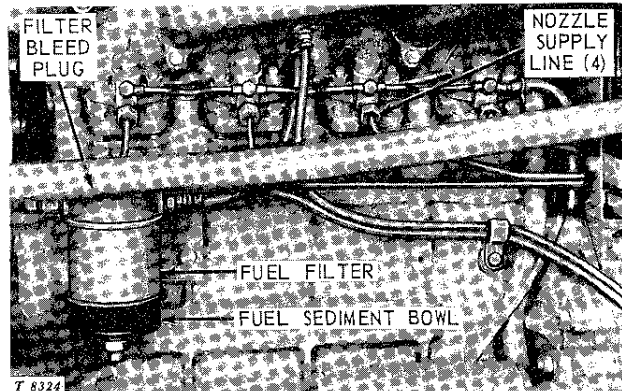

Fig. 40-10-15—Diesel Fuel System Components (42001-Up)
Tractors (42001-Up). Check the one-stage filter element for dirt or water-soaking (Fig. 40-10-15). Back off large stud screw under filter sediment bowl and remove screw and bowl. Remove filter element. Replace element and gaskets if element is dirty or water-soaked. Place gaskets on shoulders of element and slip element under filter head. Reinstall screw and bowl under filter element. Be sure gaskets are not crimped, then tighten stud screw until snug. Bleed fuel system (see following).
3. Loosen bleed plug on top of fuel filter (Fig. 40-10-15). Let fuel flow until free of air bubbles. Tighten plug.